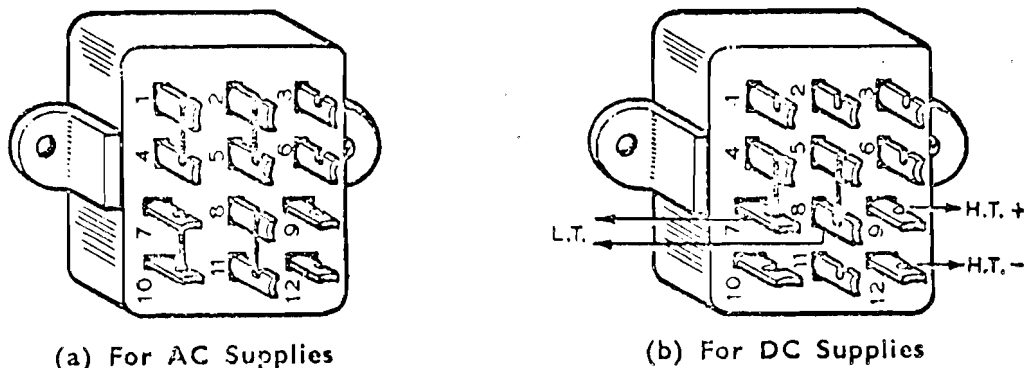

Fig. 5 Rear View of External HT and LT Socket (Showing connections)
(3) Replace the cover plate.
(4) Ensure that the External HT and LT Socket (27) is correctly strapped for AC operation, as shown in Fig. 5(a), and makes good contact with the plug.
(1) Make certain that the supply to be used conforms with the DC power requirements listed on page 2 of this Handbook.
(2) Remove the four straps on the External HT and LT Socket (27). Ensure that the DC supply leads are not live and then connect them to the socket as shown in Fig. 5(b).
(3) Replace the socket and ensure that it makes good contact with the plug.